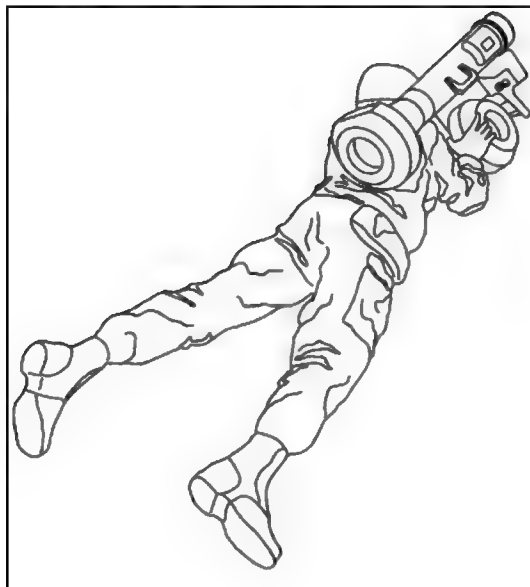

Figure 2-29. Placing end cap.
(14) Grasp the forward end cap, hold it with the inside of the forward end cap facing toward the CLU, and the flat side of the forward end cap facing up.
(15) Place the flat side of the forward end cap against the round shoulder pad (Figure 2-29).